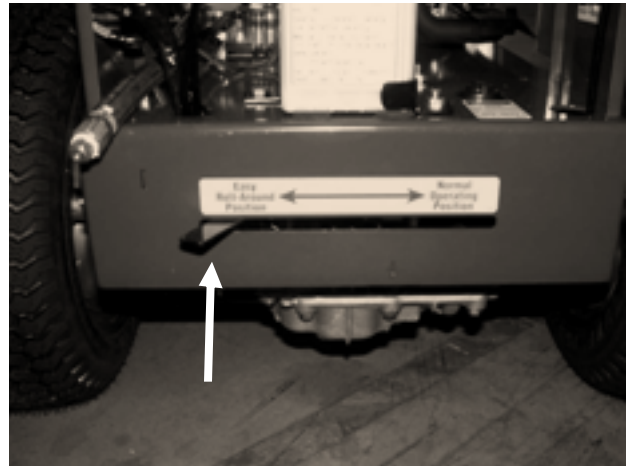

Figure 4
7. Place transaxle lever in Easy Roll Around position **Figure 4**.